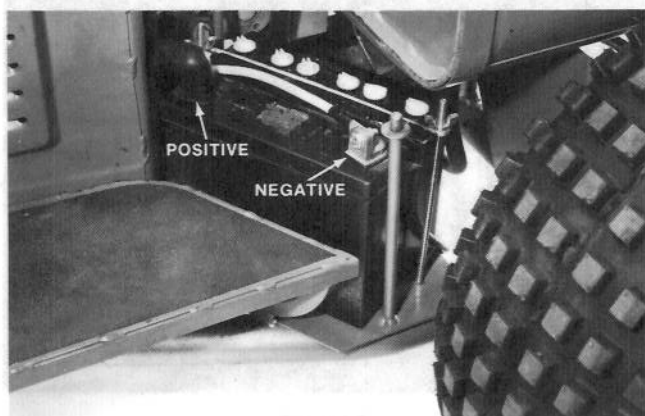
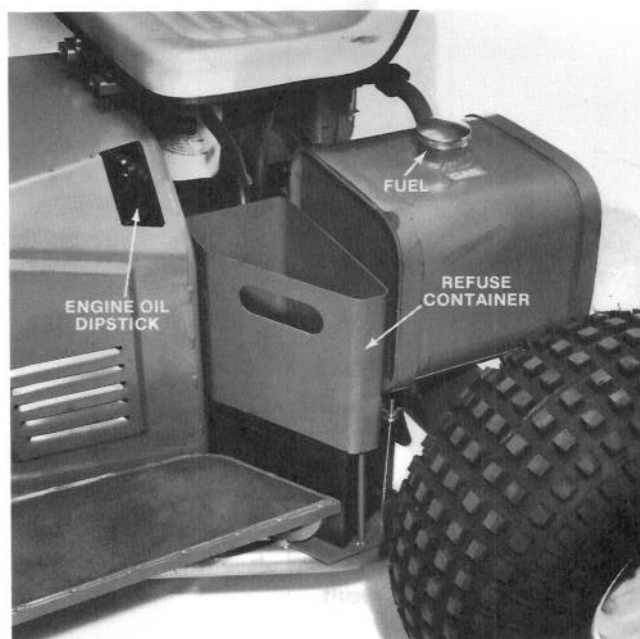

Figure 4
Figure 5
1. Set the battery in place, with the negative (—) terminal to the outside (Fig. 4).
5. Install the battery clamp and secure with the rods and wing nuts (Fig. 4).
1. Snap the refuse container (Fig. 5) onto the frame (Fig. 4) over the battery.
2. The engine is shipped with oil in the crankcase. Check the oil and replenish if necessary to bring the level to the "FULL" (F) mark on the dipstick. **DO NOT OVERFILL** (Fig. 5).
1. Fill gasoline tank with a fresh supply of unleaded gasoline (Fig. 5).